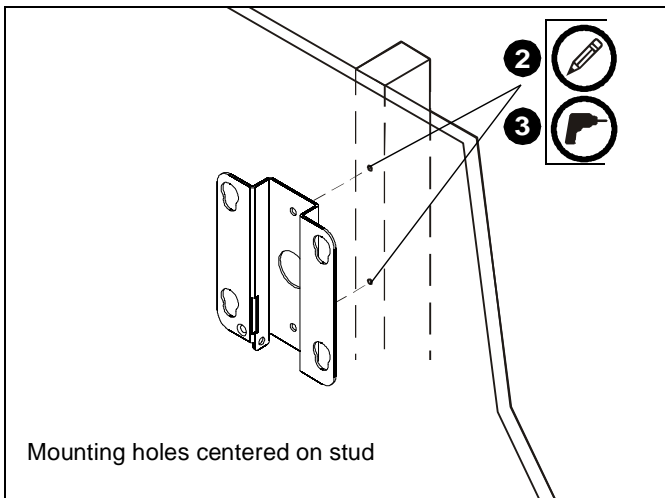

Figure 10
2. Use the removed mounting bracket as a template and mark through top and bottom holes of wall bracket making sure mounting holes are centered on stud. (See Figure 10)
3. Drill two 1/2" diameter pilot holes at marked spots into wood stud. (See Figure 10)